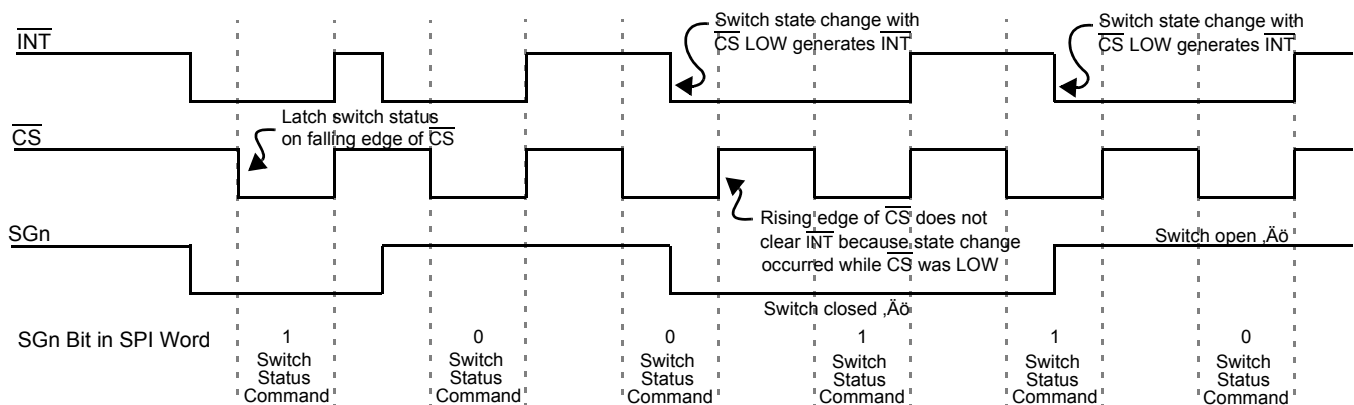

Figure 6. Normal Mode Interrupt Operation
2. INT pin is reset to logic [1], except when additional switch changes occur during  $\overline{CS}$  LOW. (See Figure 6 on page 9.)